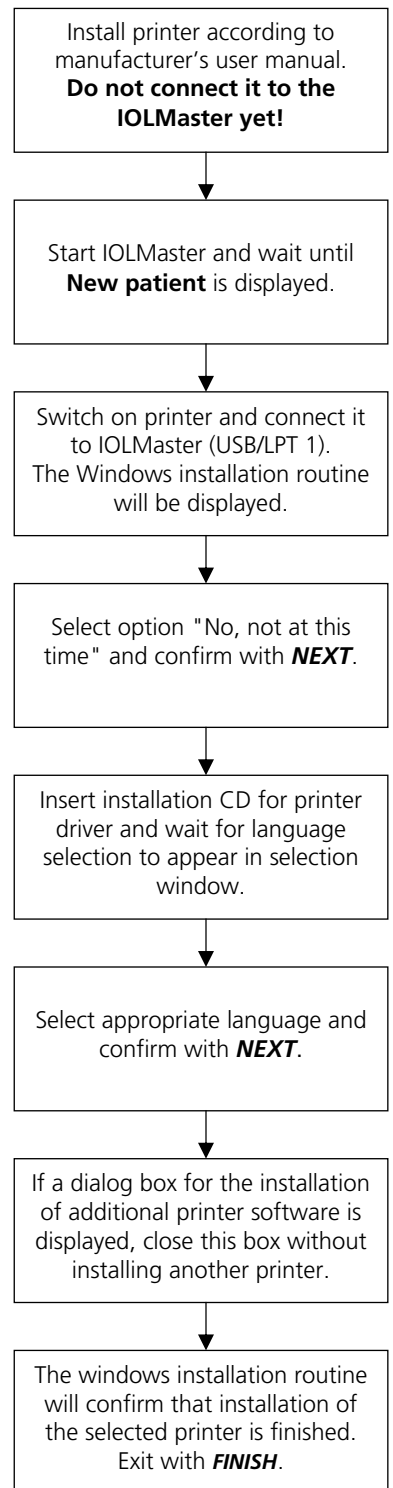

Fig. 8 Installing the printer
- Install printer as described in Fig. 8.